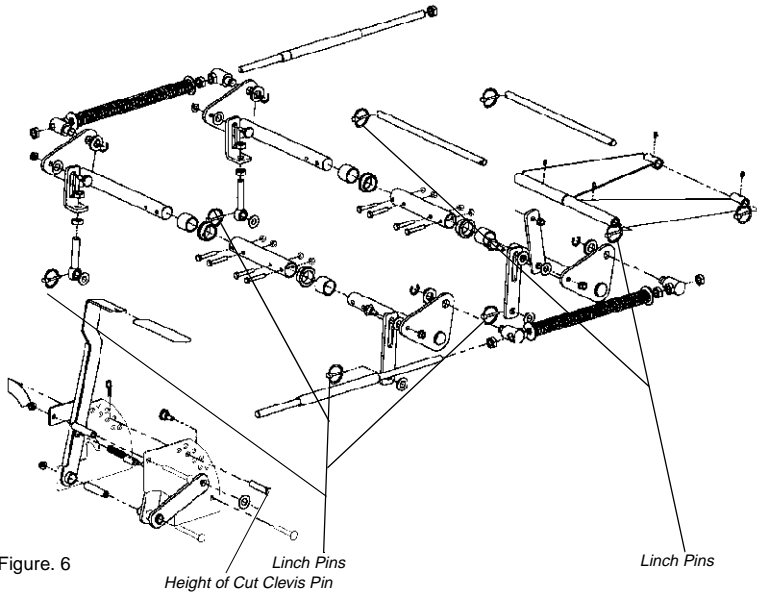

Figure 6
- e. Remove six linchpins (See Fig. 6) (4) from the deck and (2) from the front of the mower. Remove the linchpins on the left and right rear side of the cutter deck (2); remove the linchpins on the left and right front side of the cutter deck (2); and remove the linchpins on the front of the mower (2).